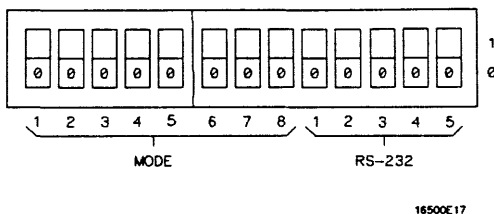

Figure 7-6. Switch Configuration for HP ThinkJet Printers
- For the HP 2225D (RS-232 HP ThinkJet) printer, the mode switches are on the rear panel of the printer. Push all the switches down to the “0” position as in figure 7-6.